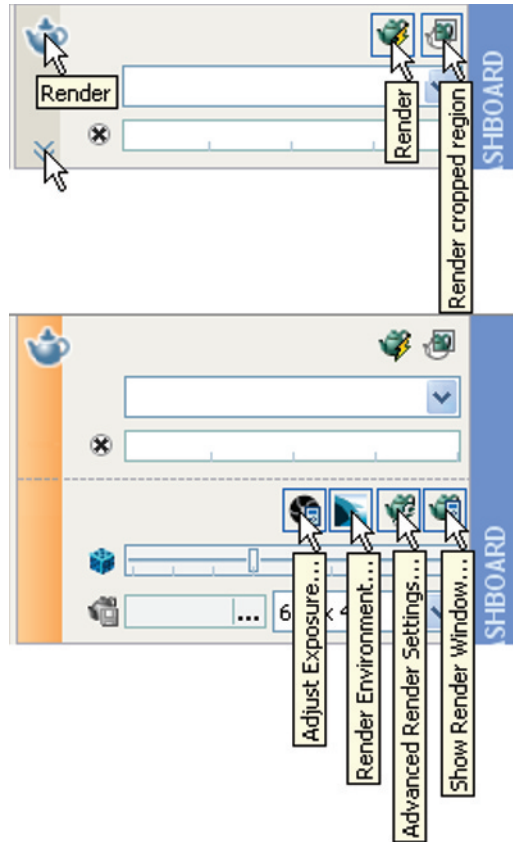
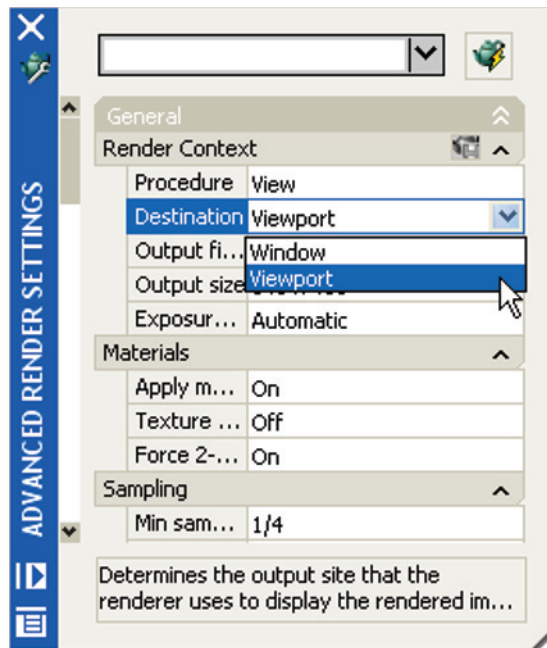
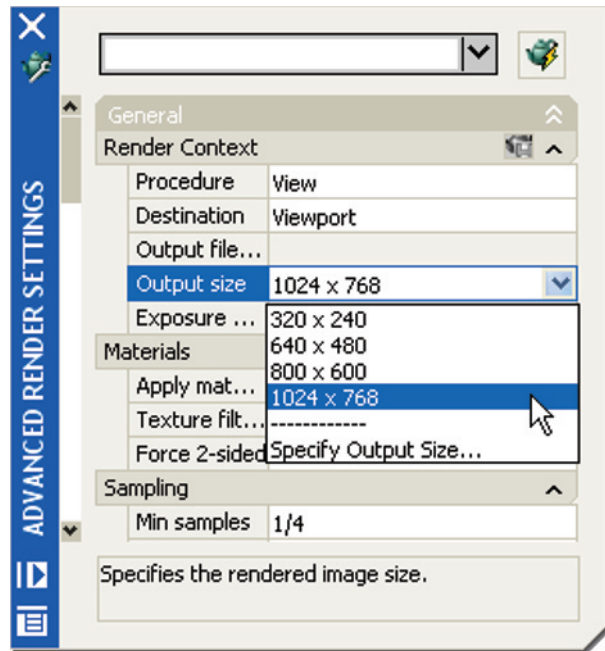

Fig. 16.7 The tool and dialog icons in the **Render** control panel
Fig. 16.13 The **ADVANCED RENDER SETTINGS** palette
Fig. 16.20 Selecting an **Output size** from the **ADVANCED RENDER SETTINGS** palette
The tool and dialog icons in the **Render** control panel are shown in Fig. 16.7.
6. In the **Render** control panel of the **DASHBOARD** click the **Advanced Render Settings...** icon (see Fig. 16.7 on page 5). The **ADVANCED RENDER SETTINGS** palette appears (Fig. 16.13).
7. Click the **Render cropped region** icon in the **Render** control panel (Fig. 16.7, page 258) and *window* the 3D model. The model renders.
9. Click the **Advanced Render Settings...** tool in the **Render** control panel (Fig. 16.7, page 258) and in the palette which appears adjust the **Output size** to **1024 × 768** or to a larger size if possible (Fig. 16.20).